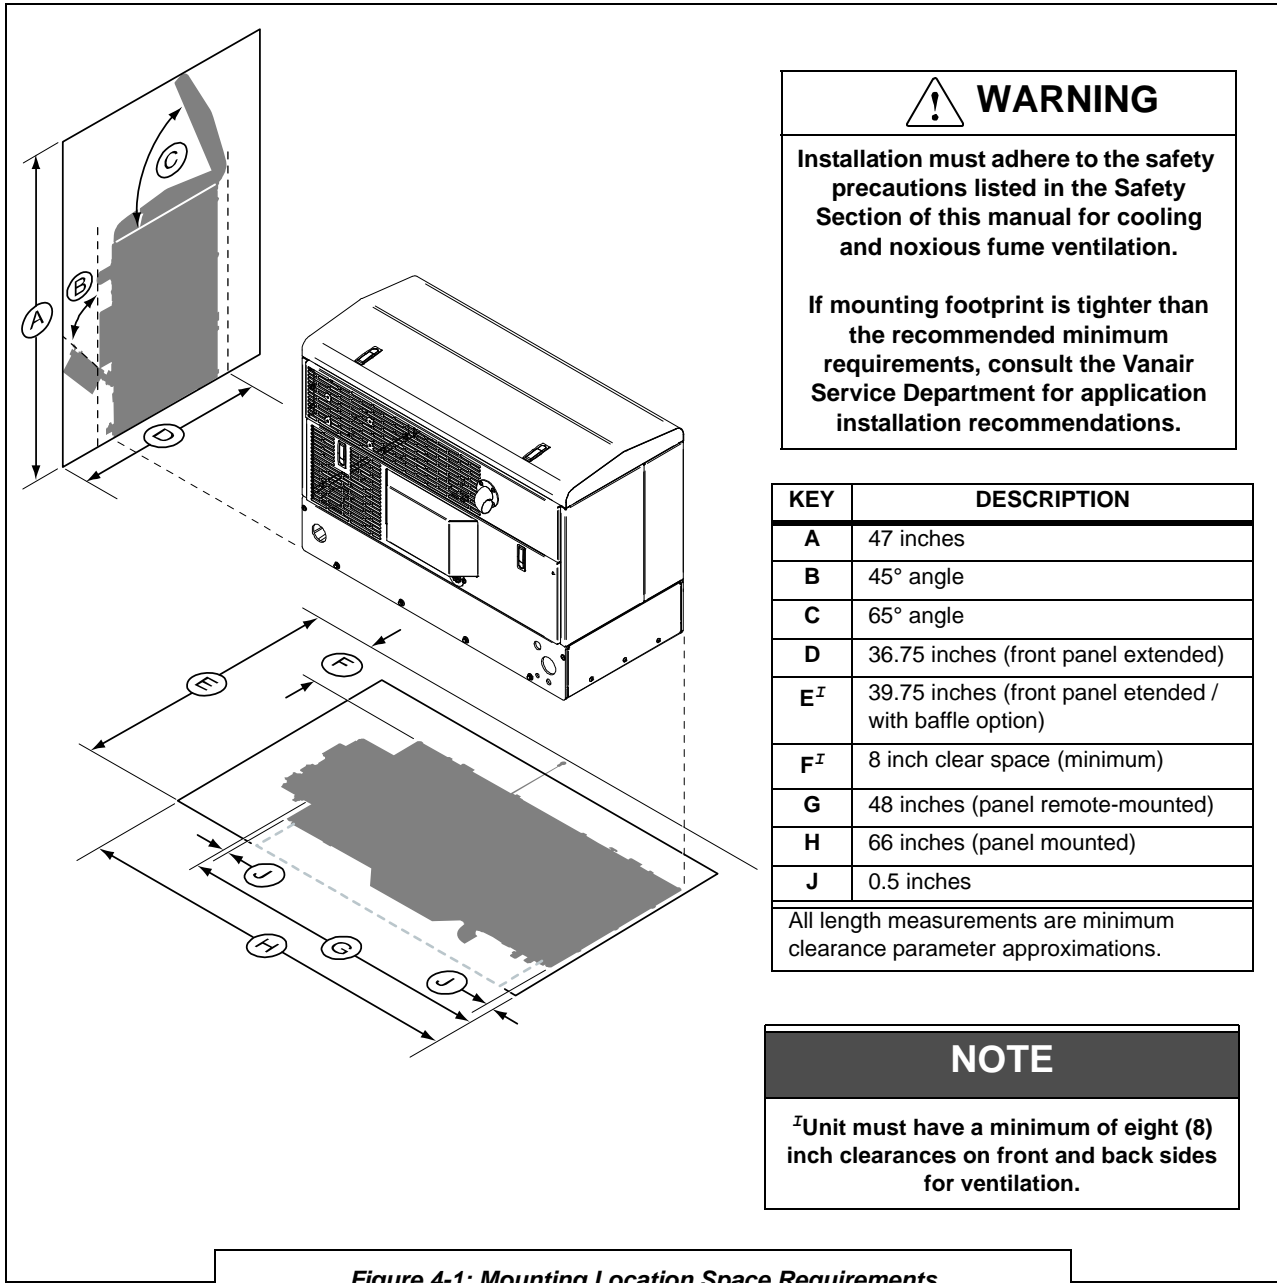

Figure 4-1: Mounting Location Space Requirements
^ISee **Diagram 4.5** (parts 1 and 2) for full dimension drawing, and **Figure 4-1** for location space requirements.
Refer to *Figure 4-1, Installation and Dimensions Diagram*, and the following instructions.
and circulation, and also package access for performing maintenance (see *Figure 4-1*).
8. Bolt the machine down with four ½" bolts inserted from the bottom. Note: See **Figure 4-1** for location space requirements.